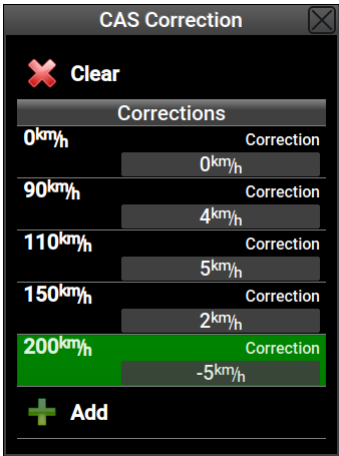

Figure 79: An example of the CAS correction table.
- 2. Enter points as shown in the Figure 79.